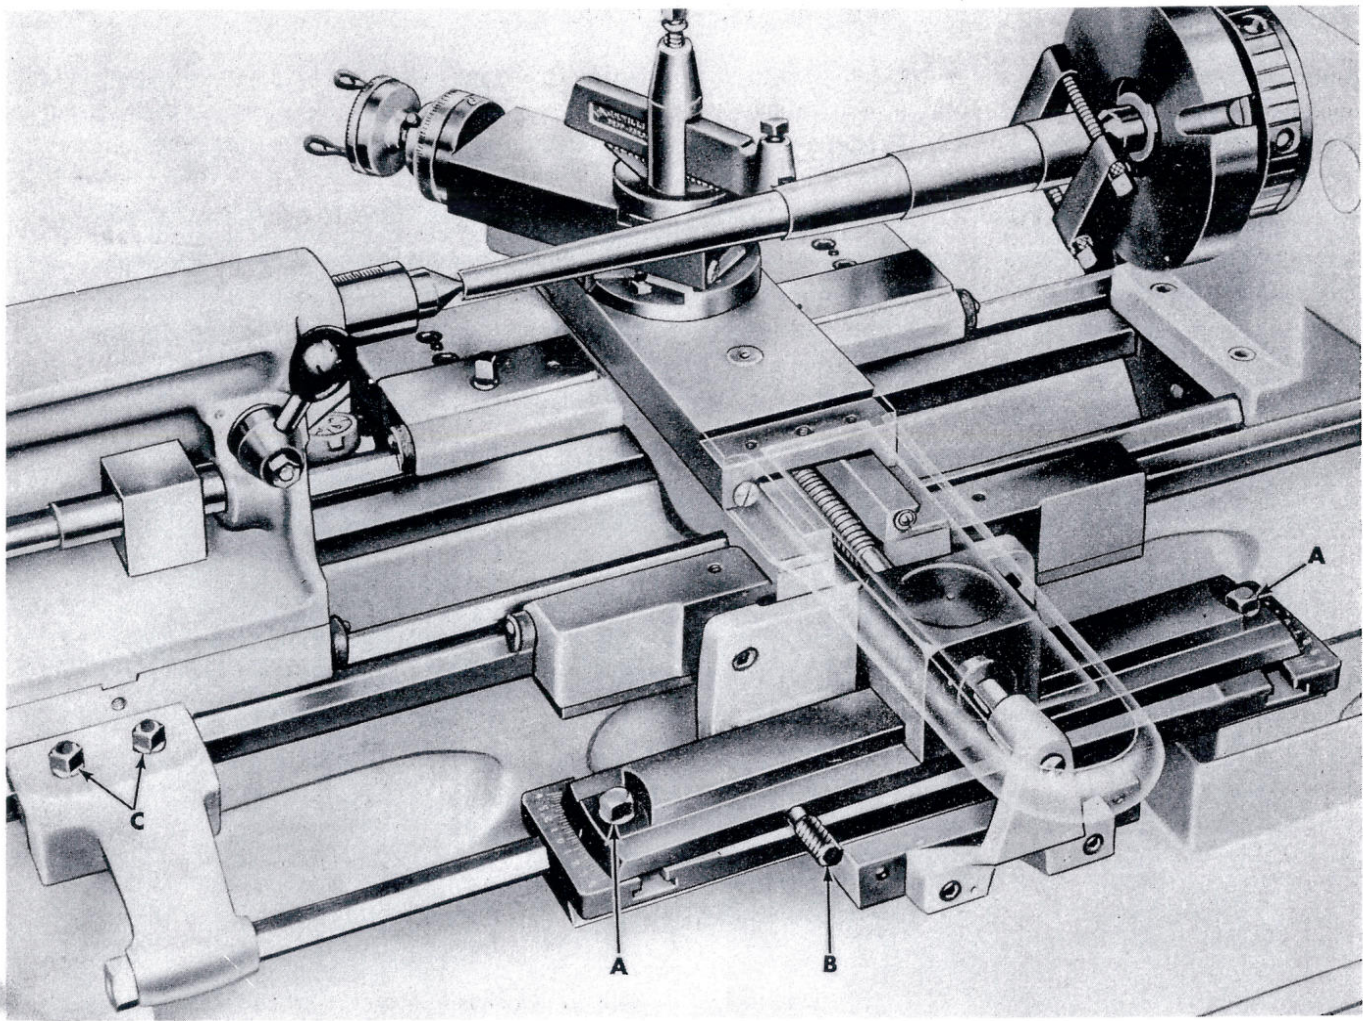

Figure 28
- A. Loosen the two lock screws (A, fig. 28) on each end of taper bar.
- B. Turn taper adjusting screw (B) to taper desired.
- C. Tighten the two taper bar lock screws (A).
- D. Be sure clamp bracket (C) is locked to lathe bed.